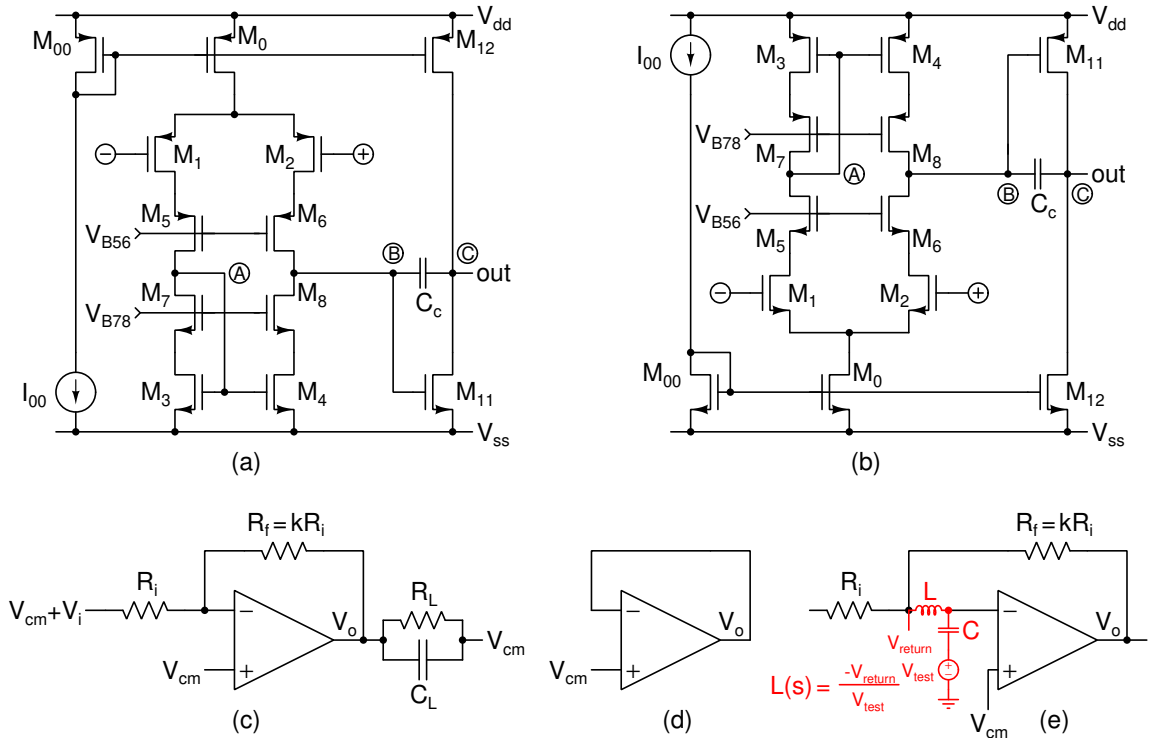

Figure 7.1: Problem 7.1.
7.1. Fig. 7.1 shows two-stage opamps. The first stage is a telescopic cascode stage. (a) uses a pMOS differential pair in the first stage and an nMOS common-source amplifier in the second stage. (b) uses an nMOS differential pair in the first stage and an pMOS common-source amplifier in the second stage.
Realize the inverting amplifier (Fig. 7.1(c)) that you designed in assignment 4 using these opamps. You will be using the same component values here. You will also need the results of MOS characterization to determine the current density.
For simulating the operating point, place the opamp in unity negative feedback as shown in Fig. 7.1(d) or simulate it in open loop with nodes A, B, and C shorted to each other and both inputs at V_{cm} .
- Loop gain magnitude (dB) and phase (degrees). The unity loop gain frequency and phase margin must be marked. Break the loop as shown in Fig. 7.1(e) to simulate the loop gain. Use large L , C , e.g., $L = 10^6$ H, $C = 1$ F. The frequency range should be from $\sim 0.1 \times$ dominant pole to where the loop gain is ~ -20 dB.